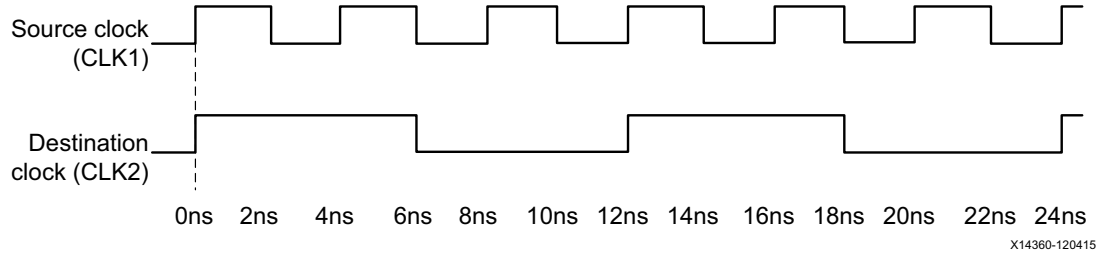

Figure 5-21: **Multicycles Between FAST-to-SLOW Clocks**
In the next example, the launch clock CLK1 is the fast clock. The capture clock CLK2 is the slow clock. Assume that CLK1 is three (3) times the frequency of CLK2. See Figure 5-21.